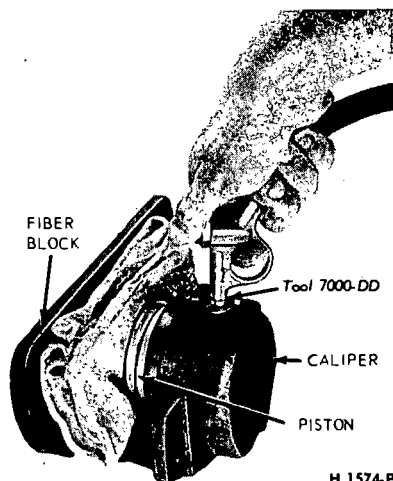

FIG. 44—Removing Piston From Caliper—All Models Except, Lincoln Continental
6. Apply air pressure to the fluid port in the caliper with a rubber tipped nozzle (Tool 7000-DD) as shown in Fig. 44 to remove the piston. Place a cloth over the piston before applying air pressure to prevent damage to the piston. If the piston is seized and cannot be forced from the